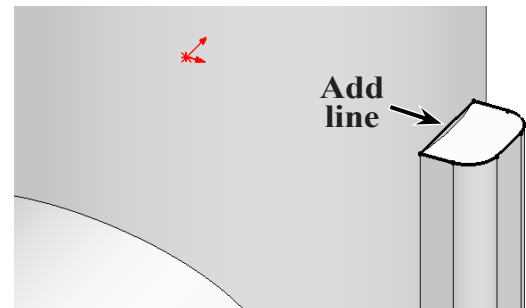

Fig. 31
Step 4. Click **Line**  (L) on the Sketch toolbar.
Step 5. Sketch **line across inside endpoints**, **Fig. 31**.